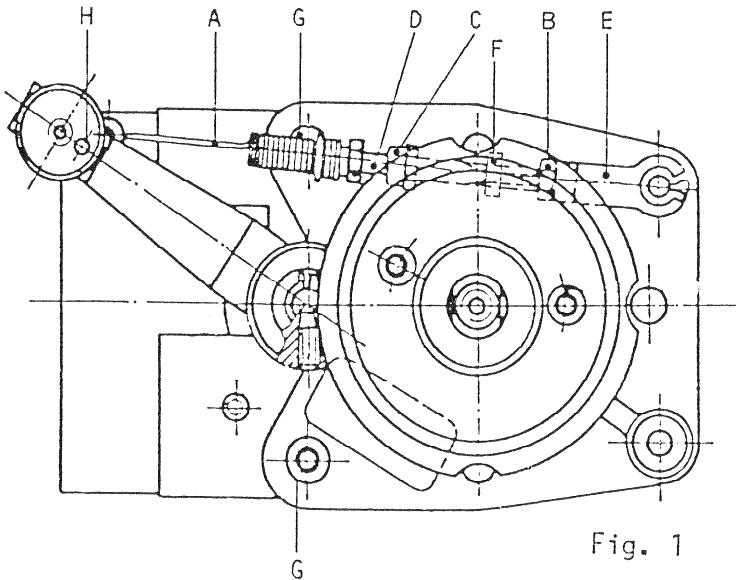

Fig. 1
- Install new spring and turn 3 spring-coils into the threaded pin (D).
- Adjust for a distance of 2mm between nut (B) and (F), by loosening locknut (B) and turning threaded pin into the counter piece (E). Fig. 1.